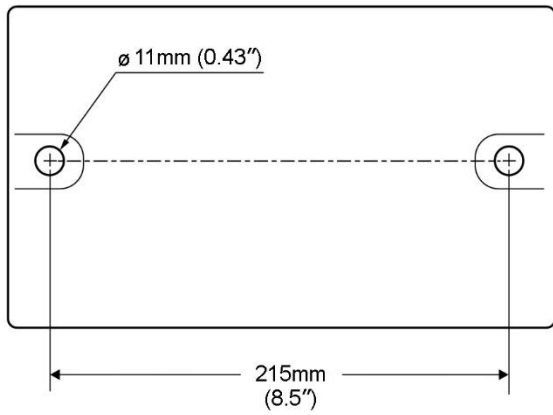

Figure 1: **IBG-8** hole centers
1. Align the mounting holes on the grinder with predrilled holes in a bench or grinder stand. Figures 1,2,3 show hole centers for mounting.
**Note:** Spark guards (A) and eye shield brackets (D) are marked **L** for left side assembly and **R** for right side assembly.
1. Assemble the left spark guard and eye shield bracket using Figure 1 as a guide. Make sure spark guard and bracket are both marked **L**.